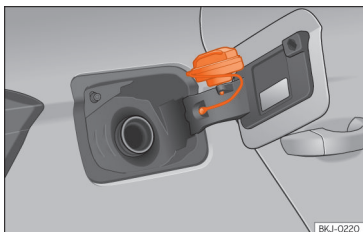

Fig. 154 Fuel tank flap with tank cap attached.
- Place it in the space on the hinge of the open flap >>> Fig. 154.